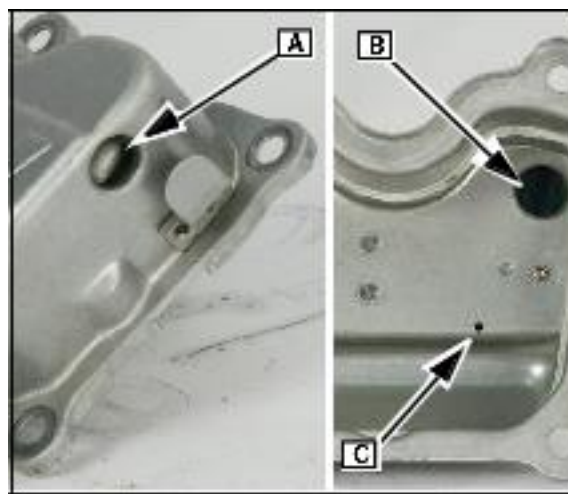

Fig. 23
The breather components are built into the valve cover for the models listed. They consist of (A) a port for the breather hose, (B) a reed and valve assembly inside the cover and (C) Fig. 23 a relief hole to balance cylinder pressures in case the breather assembly sticks or binds.